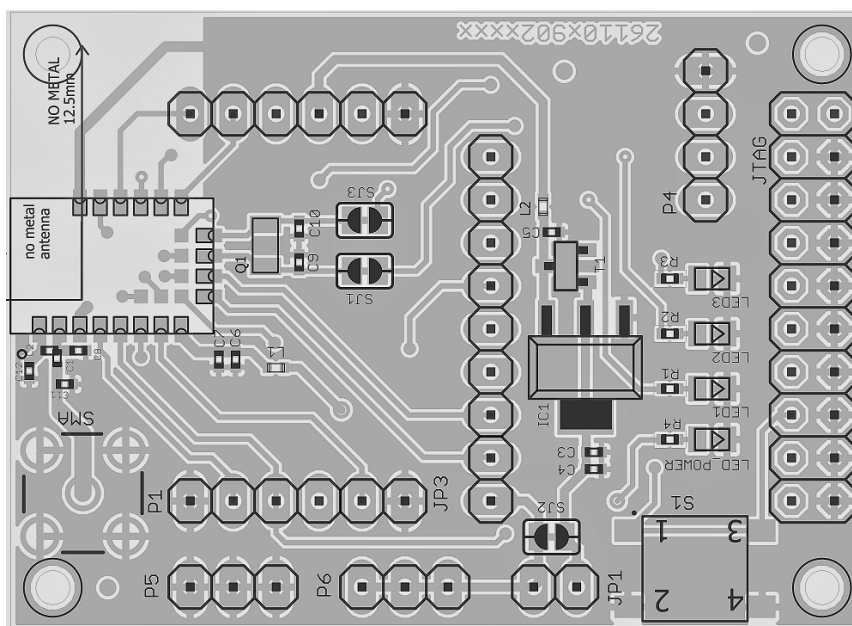

Figure 3: Default jumper placement of the Proteus-III-SPI mini evaluation board.
- the Proteus-III-SPI mini evaluation board with jumpers set as specified in figure 3. Other jumpers not set.